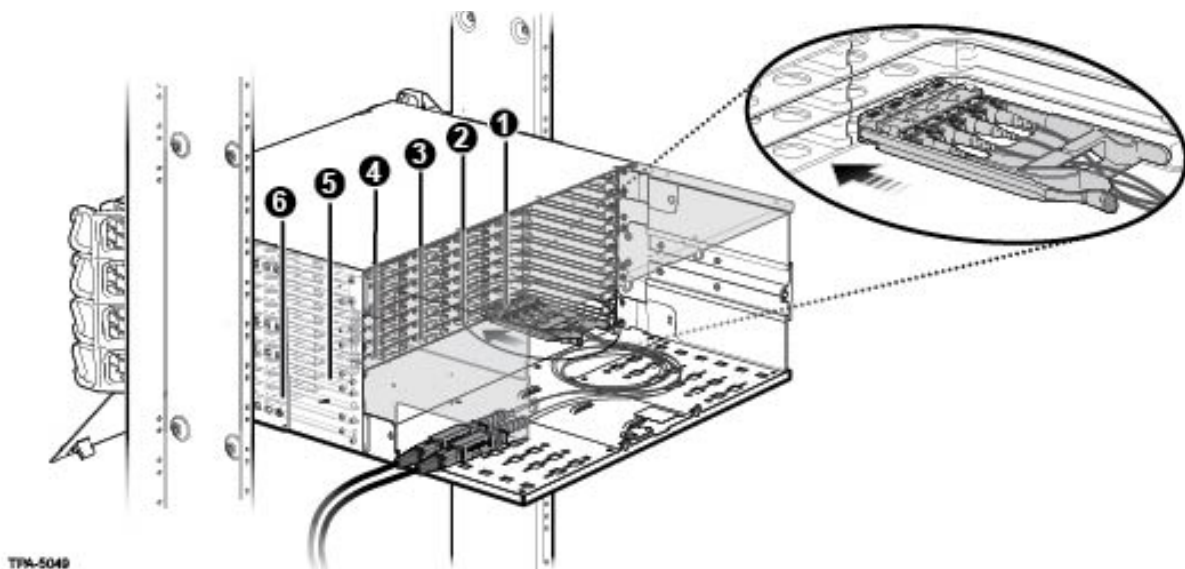

Figure 24 — Insert Adapter Panels into Rear of Housing
**Step 4:** With a panel fully populated, insert panel from the rear until it locks into place (Figure 24).